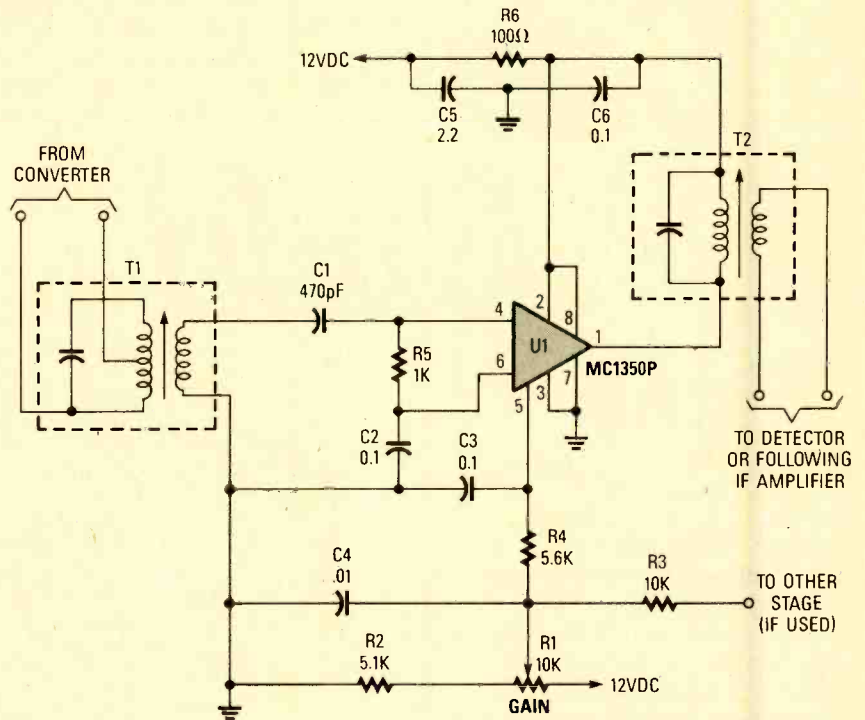

Fig. 5. This is an IF amplifier design based on the MC1350P chip with a manual IF-gain control. Stages such as this can be ganged to provide greater gain.
The task was accomplished with the Brown amplifying circuit shown in Fig. 5. The input is supplied at points A and E and it goes to a pair of coils, identified as C. Below those coils are another pair of coils marked M that are receiving direct current from the battery (B). The field set up by the M coils is disturbed by the C coils as the audio signal passes through them. That causes a highly-flexible metallic armature, denoted as V (for vibrator) in the figure, to vibrate in step with the audio. That in turn compresses and releases a small disc (D) of resistive material such as carbon. The resistance of the disc varies with the amount of pressure applied, so the current flow in the headphones is controlled by the armature motion, which is in turn controlled by the current through the C coils.
Fig. 5. The Brown amplifying circuit was a magnetic mechanical amplifier for weak audio signals. The signal was applied to terminals A and E. The battery provided sufficient current to "almost" pull a metallic armature away from a carbon pad. The audio signals thus varied the pressure on the pad causing the contact resistance to vary. It worked almost like an old telephone transmitter.
Figure 5 shows the basic circuit for an IF amplifier building block. For receivers requiring moderate gain (for example an AM receiver that is intended primarily for local reception) only one stage need be used. In shortwave receivers, or wherever superior sensitivity is sought, it is permissible to cascade two or three such stages to boost amplification as required. The gain of the stage is on the order of 50 dB, and some